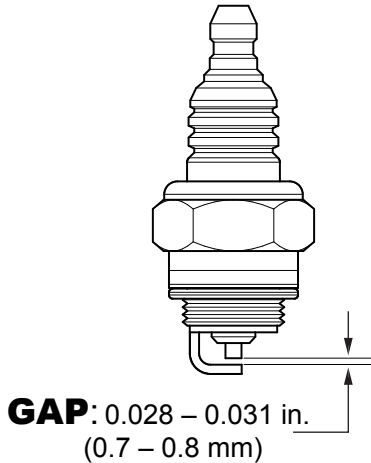

Figure 48. Spark Plug
1. Remove and clean the spark plug (Figure 48) with a wire brush.
2. Measure the spark plug gap (Figure 48) with a feeler gauge. The spark plug gap should measure 0.028–0.031 inch (0.7–0.8 mm). Adjust the spark plug gap as needed by bending the side electrode.